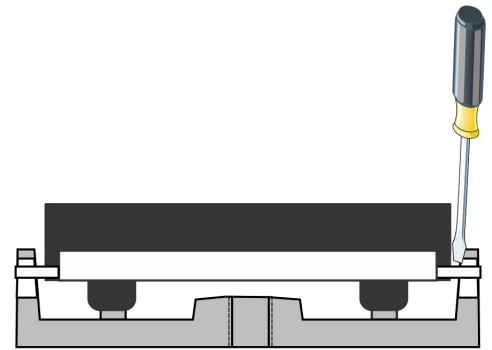

Figure 2
9. Starting in one corner of the Resilient Cushion, insert a flat blade screwdriver between the inside wall of the Housing and the Resilient Cushion. See Figure 2.